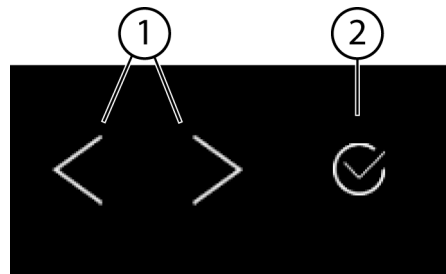
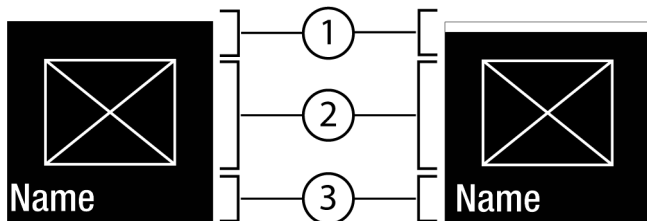
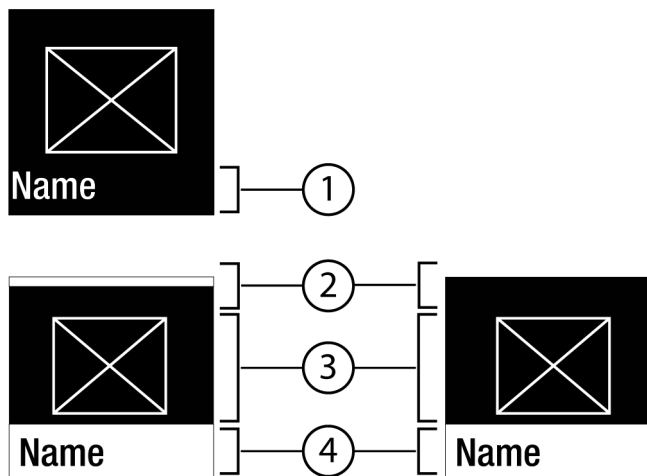

Fig. 5
Fig. 6
Fig. 7
- (1) Navigation arrow left/right
- (2) Confirm
Navigation arrow left/right Fig. 5 (1):
Confirm Fig. 5 (2):
- Press the left/right Fig. 5 (1) arrow to navigate.
- Press Confirm Fig. 5 (2) to activate Fig. 6 (1) / deactivate Fig. 6 (1) the function.
- Press Confirm Fig. 5 (2) to open the submenu Fig. 7 (4).
- Set a new value: Press Confirm Fig. 5 (2) to select an active value Fig. 6 (1).
- Back to the menu: Press Confirm Fig. 5 (2) to select the active value Fig. 6 (2).
- ▶ Press the navigation arrows Fig. 5 (1) until the appears.
- ▶ Press Confirm Fig. 5 (2).
- ▶ Press the navigation arrows *Fig. 5 (1)* until the function appears.
- ▶ Press Confirm *Fig. 5 (2)*.
- ▶ Press the navigation arrows *Fig. 5 (1)* to select the setting value.
- ▷ Status: On *Fig. 6 (1)* appears briefly in the submenu *Fig. 7 (4)*.
- ▶ Press the navigation arrows *Fig. 5 (1)* until Settings  appears.
- ▶ Press the navigation arrows *Fig. 5 (1)* until you see the setting you want.